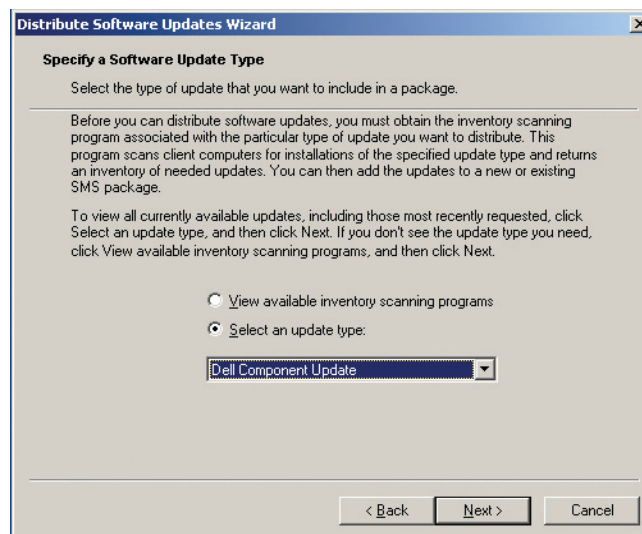

Figure 3. Dell Component Update selection in the Distribute Software Updates Wizard
**Dell component updates.** A Dell component update is a single hardware update, such as a BIOS, firmware, or driver update, packaged in the update package format with standardized command-line and graphical user interfaces for installation. Administrators can select component updates when running the Distribute Software Updates Wizard (DSUW), as shown in Figure 3.